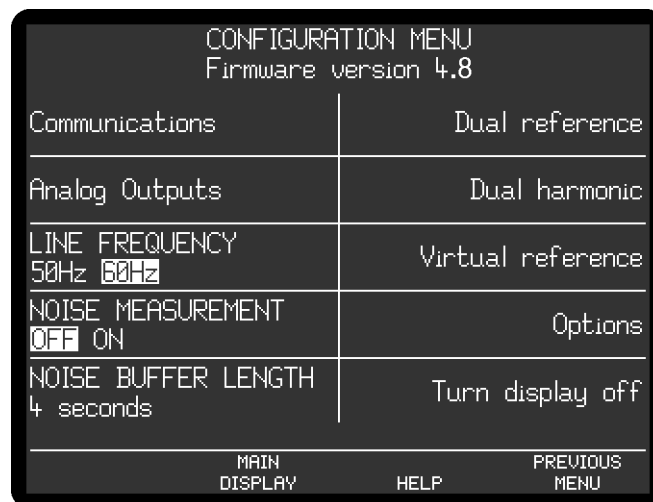

Figure 2-8, Configuration Menu
- 4) Press one of the keys adjacent to the Configuration menu item to enter the Configuration menu, shown below in figure 2-8.
- 5) The present line frequency setting is shown in reversed text under the LINE FREQUENCY label and is either 50 or 60 Hz. In figure 2-8, the filter is set to 60 Hz. If this setting does not match the prevailing line frequency, then press a key adjacent to this item once to change it.